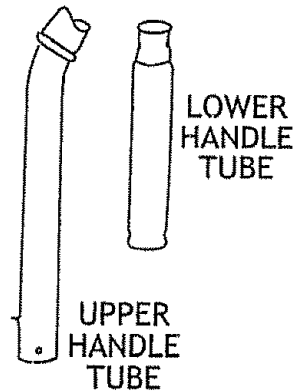
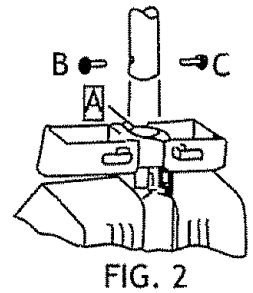
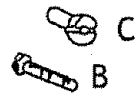
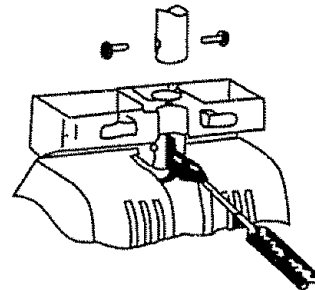

FIG. 1
FIG. 2
FIG. 3
FIG. 4
1. Place lower handle tube (Fig. 1) into handle tube socket "A" (Fig. 2). Fasten using bolt "B" and internally threaded nut "C" (Fig. 3) provided in the hardware package. If the handle tube is difficult to assemble (tight), insert blade of screwdriver into slot (Fig. 4) at rear of handle tube socket and twist screwdriver gently while inserting handle tube.
2. Place upper half handle tube (Fig. 1) over lower half. Align holes and fasten with remaining bolt "B" and internally threaded nut "C".